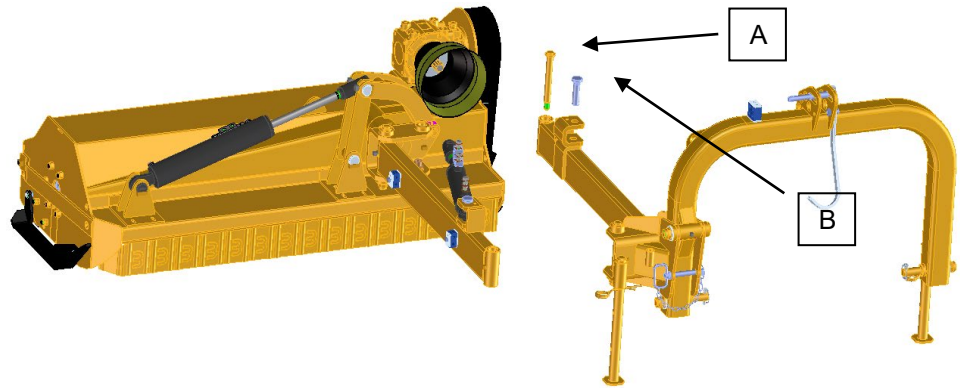

Figure 17
3. With caution and care move the parallelogram arms until they are re-entered on the related holes, then secure them with the pin (figure 17);
4. Move the jack and secure it with the relative pin B (figure 17);